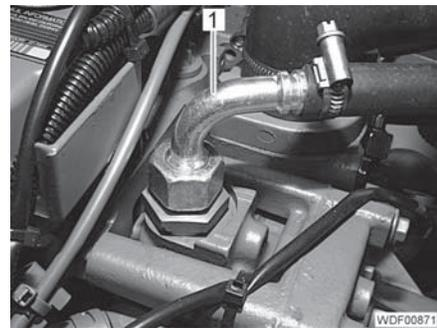

Fig. 48 Heater connection
- Screw the heating line (Fig. 48,1) onto the connection on the engine and tighten.